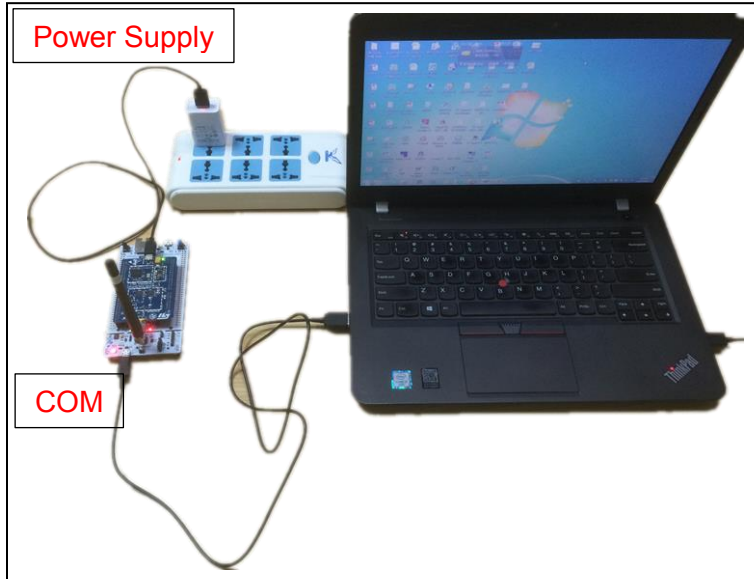

Figure 4-1 System setup
1. Set up the system and connect the hardware like Figure 4-1.